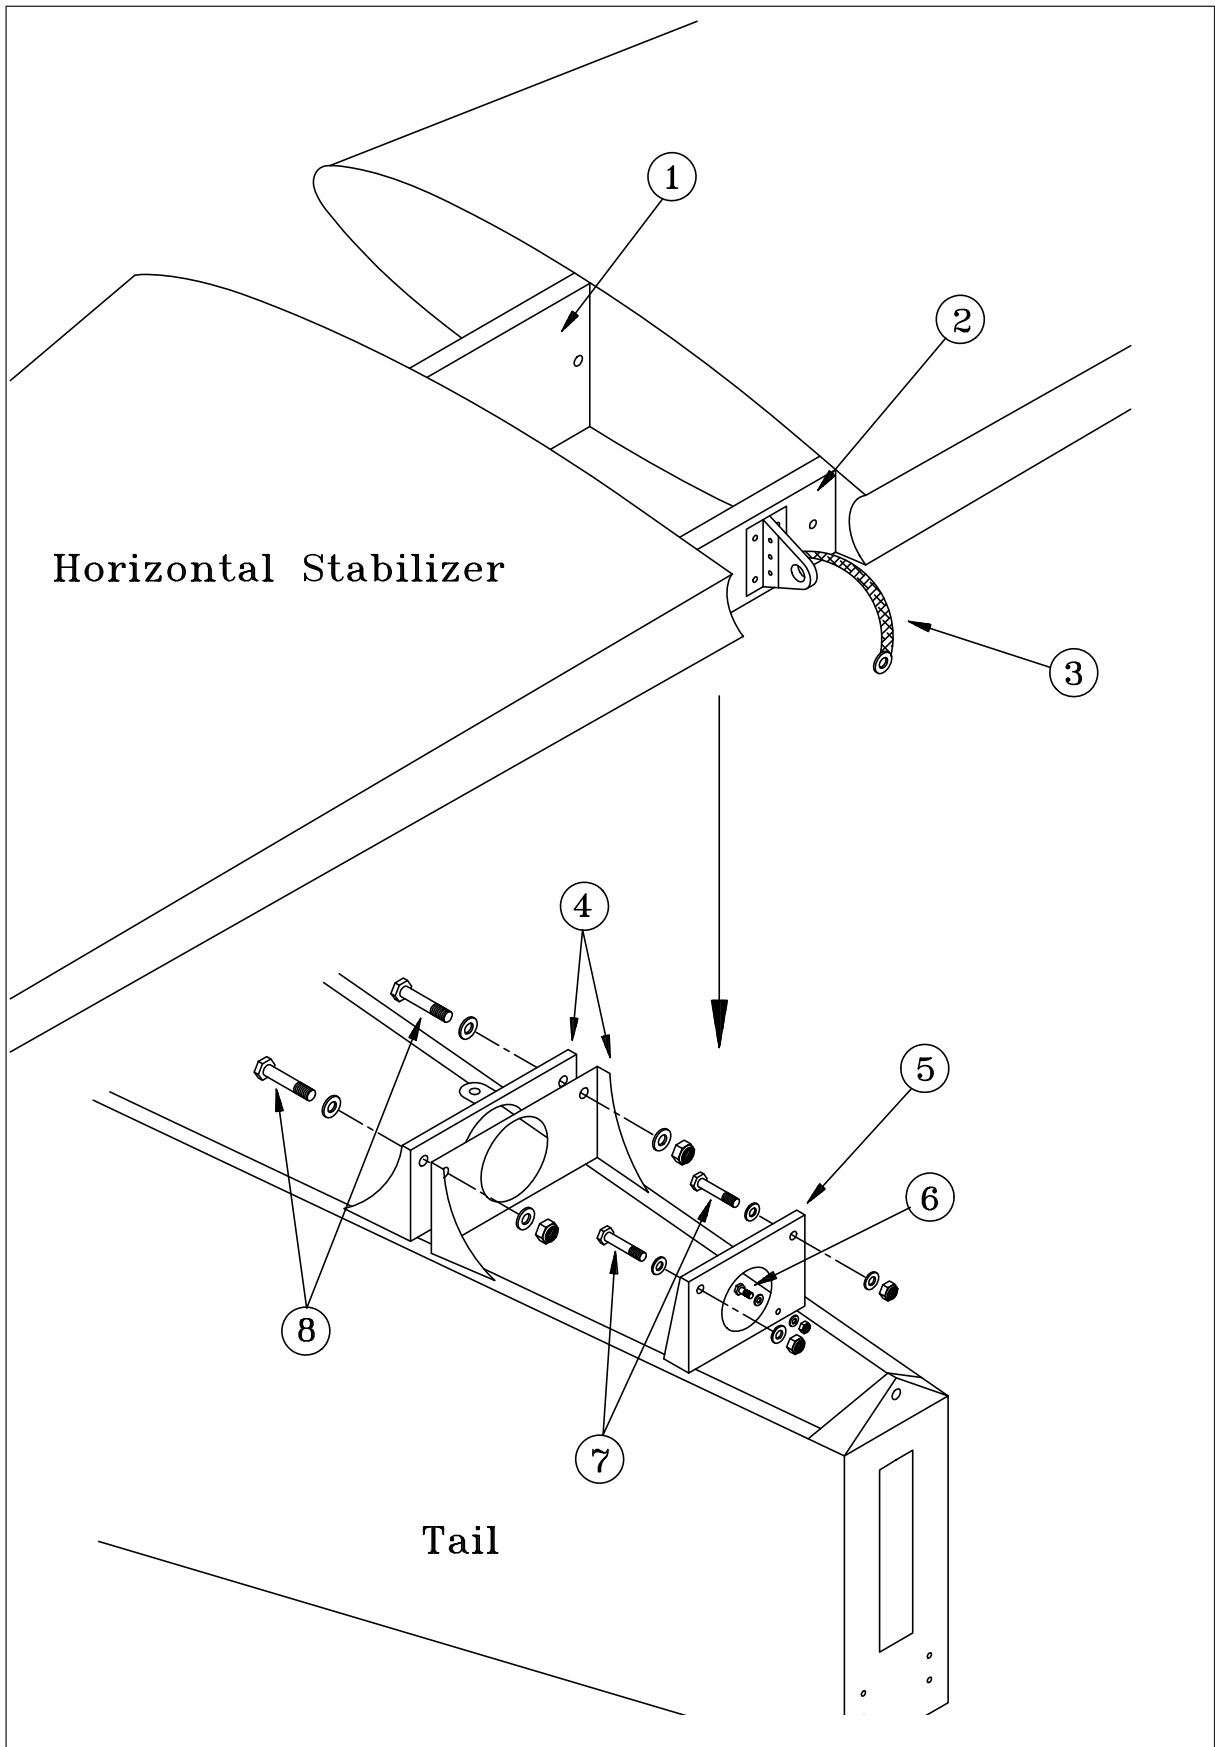

Figure 2
- 1 Slide the horizontal stabilizer with its front spar (1, figure 2) into the attach brackets (4) on fuselage. The rear spar (2) is positioned behind the rear attachment bracket (5) (trim tab is on the right side).
- 2 Slide in the front spar attachment bolts (8) with an additional washer under the bolt head from the front to the rear. These bolts are also used for the vertical stabilizer attachment. Therefore do not apply stop nuts before the vertical stabilizer is fitted to the fuselage.
- 3 Slide in the rear spar attachment bolts (7) from front to rear. Torque nuts for fastening.
- 4 Fasten the ground bonding lead (3) by means of the bolt (6), the washers and the stop nuts.